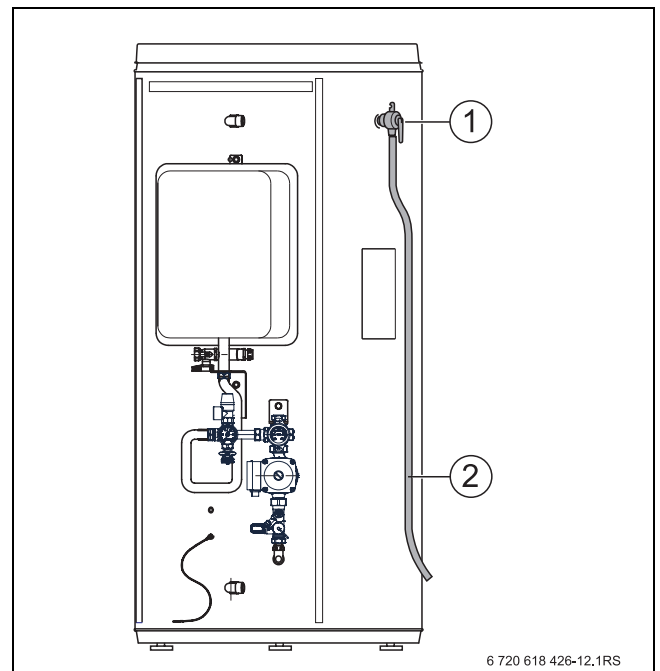

Fig. 16 Fitting the PTR valve and blow-off line
- ▶ Cut blow-off line DN15 [2] to length and bend according to Fig. 16.